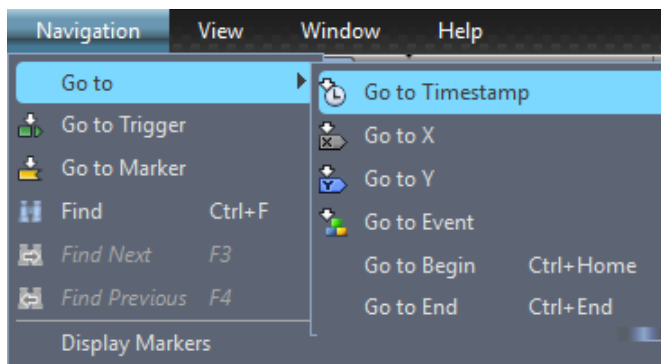

Figure 2.17: Navigation Go to Menu Option.
- ❑ **Go To** menu options allows location of cursors or specific packets: Timestamp, X Position, Y Position, Event, Begin, and End. Refer to Figure 2.17.